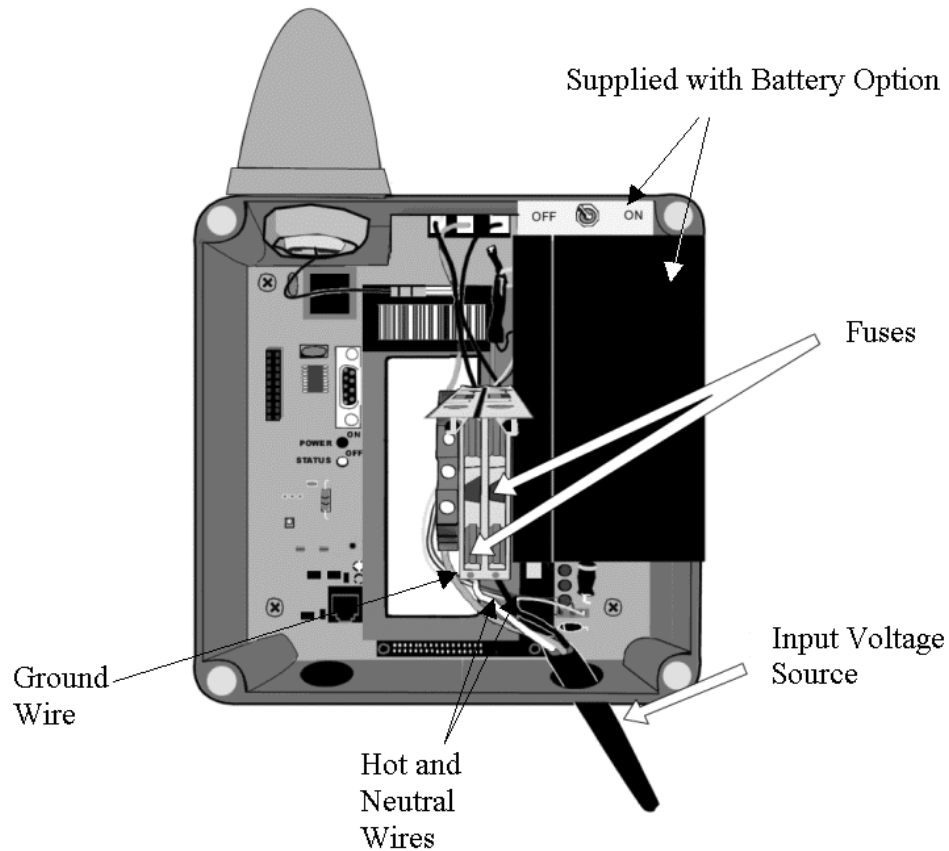

Figure 1-3. Connecting an Input Voltage Source
- 2.** Insert the power cord through the conduit hole at the bottom of the compartment (see Figure 1-3).
NOTE: OMEGA has two 2A slo-blo fuses. To access the fuses, lift the power connector handles as shown in Figure 1-3.